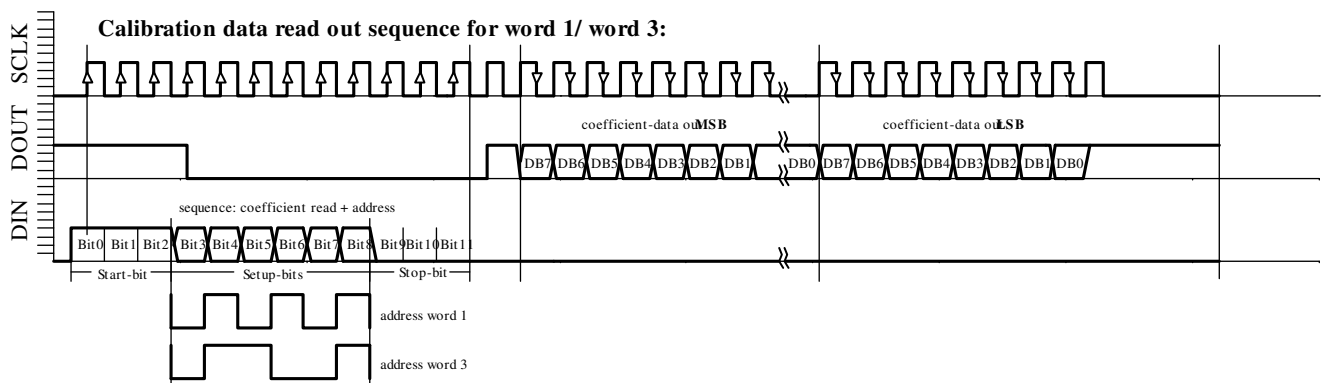

Fig. 6c: Word1, Word3 READING sequence.
- Calibration data READOUT sequence for Word1 (Figure 6c)
- Calibration data READOUT sequence for Word3 (Figure 6c)